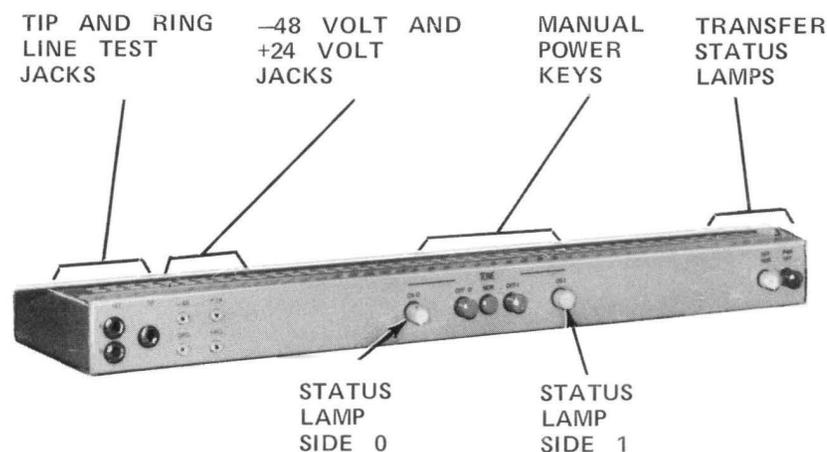

Fig. 3—Manual Control Panel, 807E Tone Power Plant
2.03 The manual tone panel provides ON-OFF switching and status indicators for the 807E tone power plant. Refer to Fig. 3 for arrangement of switches and lamps. Refer to Table B for function of switches and lamps.